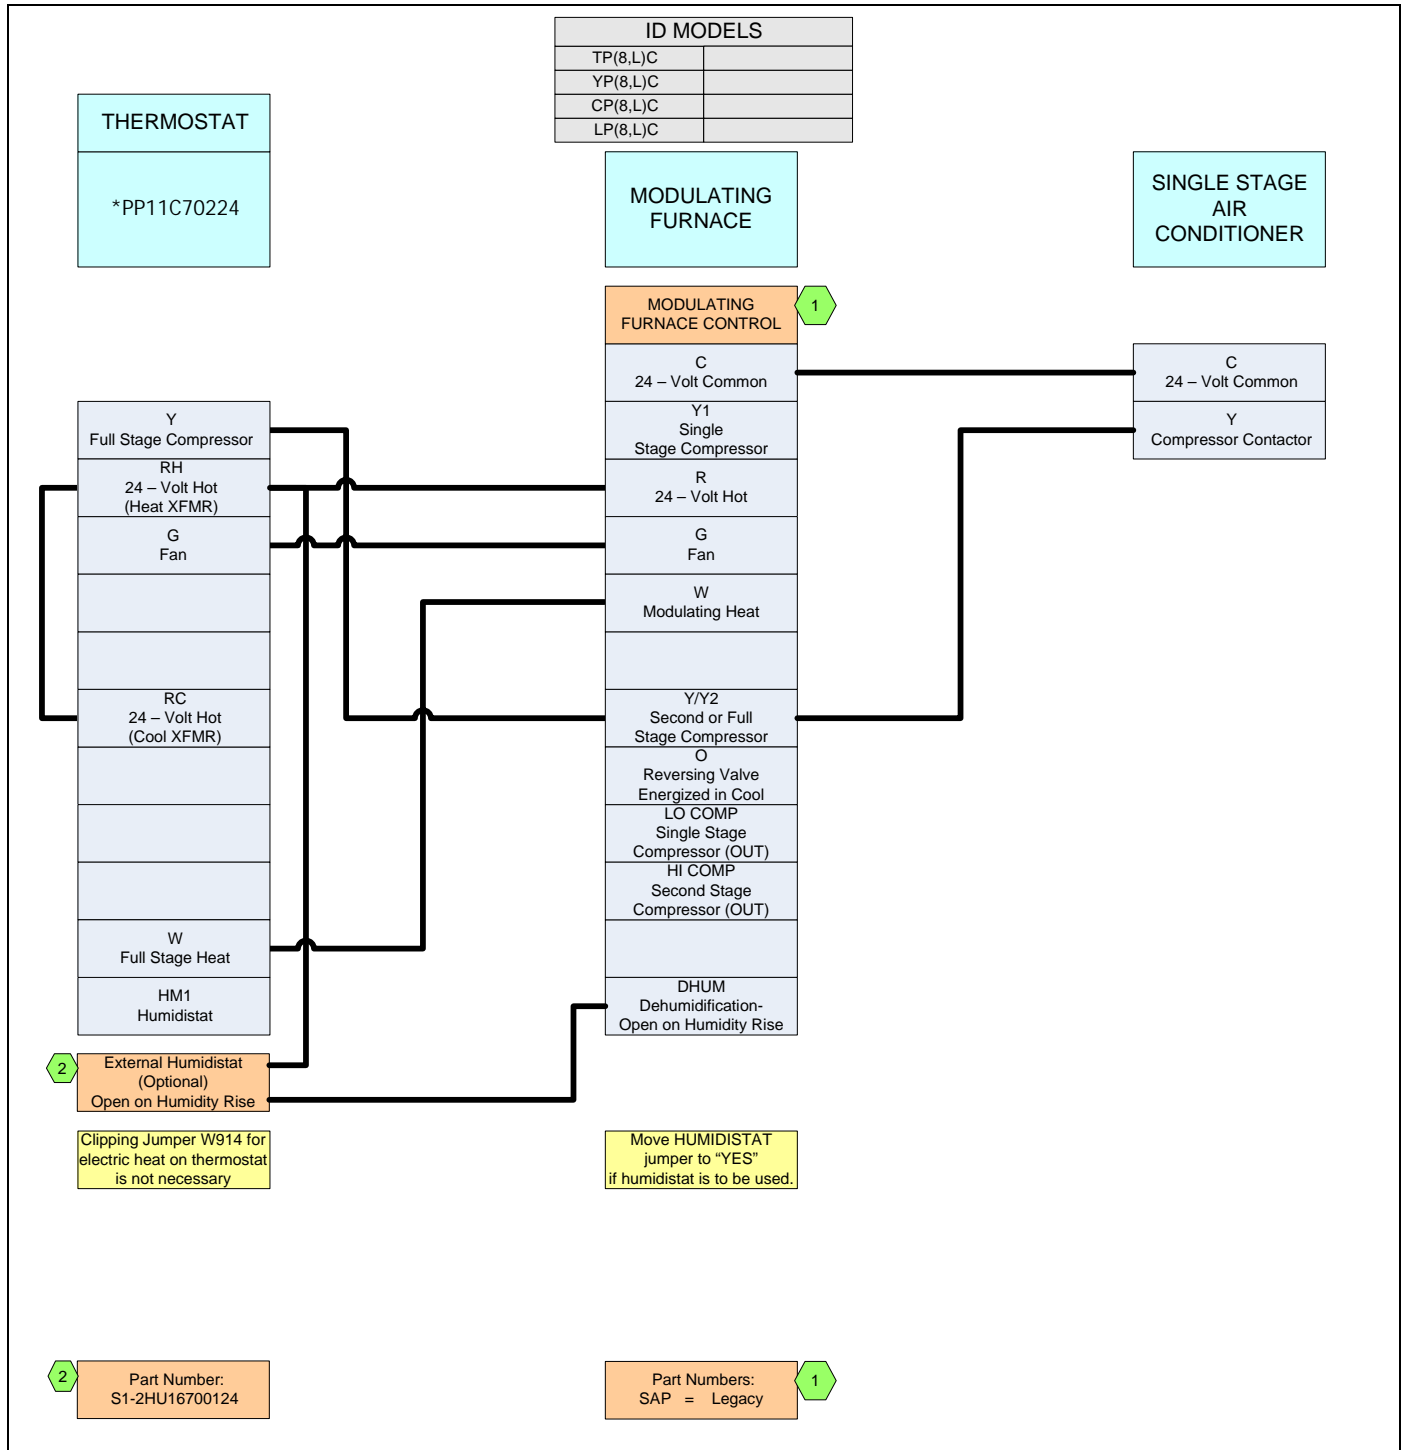

FIGURE 19: Thermostat Chart - Single Stage Air Conditioner – Variable Speed or PSC Modulating Furnace
**For Single-Stage A/C** - Connect the low voltage wiring as shown in Figure 19, Thermostat Chart.